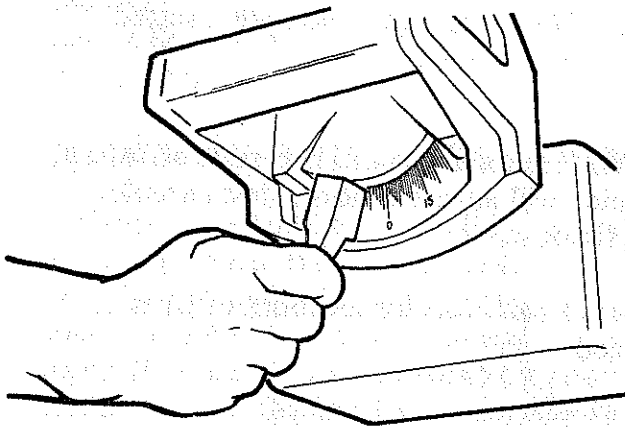

Fig. 122 - Bevel Lock - Locked
2. Position the motor at approximately 30° bevel angle and lock *bevel lock*. (Figure 122)